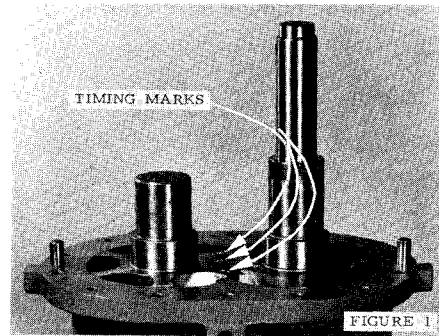
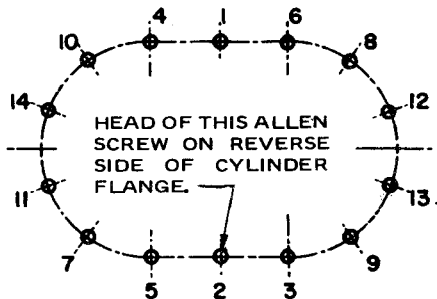

FIGURE 1
FIGURE 11A.
1. Place the compressor upside down and remove the oil sump plate, Figure 1. Remove the one (1) cylinder flange to discharge end plate socket head screw (see arrow).
- Remove all discharge end plate to cylinder screws. (*Note: See arrow in Figure 1.*) With four (4) jack bolts, Figure 8, pull the end plate, fixed bearings and rotors from cylinder as an assembly. This will pull rotor shafts through bearings at inlet end. Take care that the bearings do not fall from inner race. Be careful not to burr rotors or cylinder during this operation.
1. Stand the cylinder on blocking high enough to clear the main rotor shaft extension. Check in the bottom of the cylinder and cylinder walls for burrs. Coat both bores, bottom of cylinder and walls with oil. Check ends, lobes and cavities of rotors for burrs. Coat rotors with oil. Lower rotors into the cylinder. The main rotor is installed with the shaft extension with keyway down. The secondary rotor is installed with the shortest shaft extension down. Make sure the timing marks on the ends of the rotors line up, Figure 1. Timing marks are also rotor pair identification marks. Rotors must be matched pairs for proper operation. **DO NOT INTERMATE ROTORS WITH DIFFERENT TIMING-IDENTIFICATION MARKS.** Rotate the rotors to be sure they rest squarely in the bottom of the cylinder.
Check both rotors. Refer to clearance chart for correct value. Since the lower end of the rotors are not yet held by bearings, there may be a slight out-of-square condition noticed in this check. Lower the end plate and rotor assembly into the cylinder and bolt tight. Torque all fourteen (14) screws per table on page 3, this section. When tightening and torquing, follow the pattern shown in Figure 11A. See Figure 1 in "Disassembly" for screw on reverse side of the cylinder flange.
the driven gear teeth with the same oil to be used in the compressor system. Install the gear housing over the dowel pins on the cylinder. Slight rotation of the drive shaft may be necessary to engage gear teeth. Tighten the housing screws evenly to prevent binding of gear teeth. Torque all screws following the pattern shown in Figure 11A.